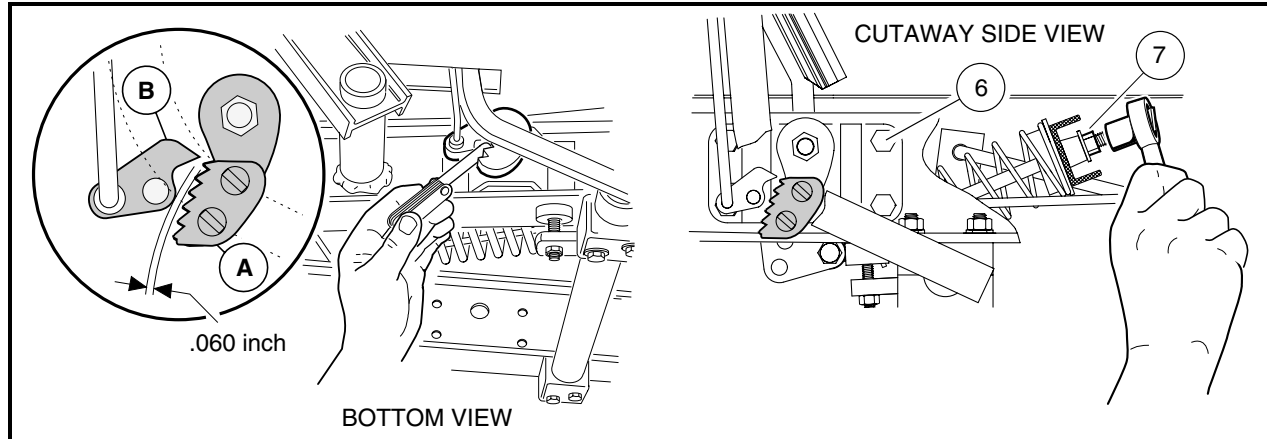

Figure 5-14 Park Brake Ratchet/Pawl Gap Adjustment
- 3.2. Adjust retaining nut (7) on spring support rod until there is a 0.060 inch (1.5 mm) gap between the pawl and the tips of the ratchet teeth. Use a feeler gauge to verify the gap (**Figure 5-14, Page 5-18**).
- 3.2. Adjust retaining nut (7) on spring support rod until there is a 0.060 inch (1.5 mm) gap between the pawl and the tips of the ratchet teeth. Use a feeler gauge to verify the gap (**Figure 5-14, Page 5-18**). The gap should be consistent through range of pawl movement. If the gap is not consistent, loosen the four bolts (6) securing the accelerator pivot rod supports and adjust the supports. If the gap becomes smaller as the park brake pedal is depressed, move the pivot rod supports slightly rearward until the gap is consistent. If the gap becomes larger as the park brake pedal is depressed, move the pivot rod supports slightly forward until gap is consistent.